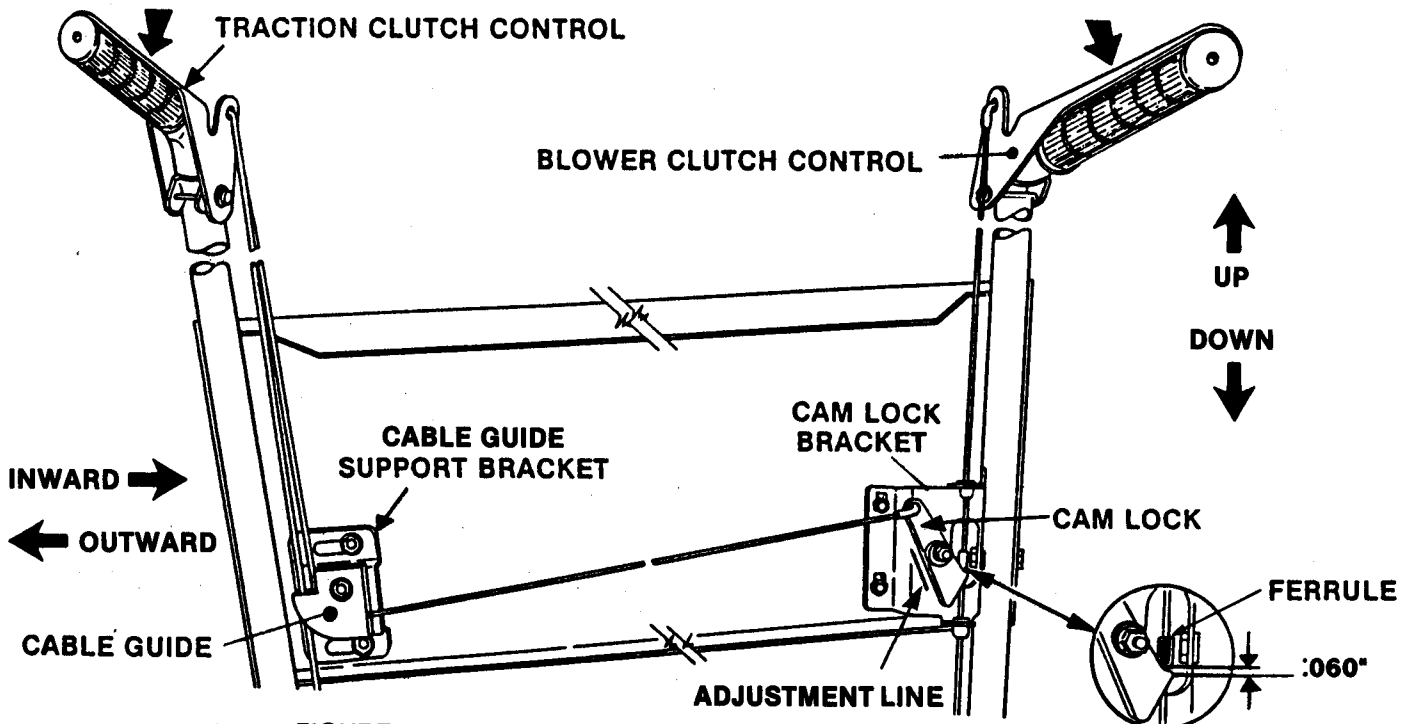

FIGURE 3.8
If the clutch controls need readjusting, turn engine off and disconnect spark plug wire! Reset as follows (Refer to figure 3.8):
(A) Have an assistant temporarily hold the traction clutch control down against the handle grip. The edge of the cam lock must be aligned with adjustment line scribed on the cam lock bracket as shown. To align, loosen the two fasteners holding the cable guide support bracket and slide the bracket inward or outward as needed then retighten the fasteners. (B) With the traction clutch held down, have assistant hold the blower clutch control against handle. The ferrule (shown in the inset of figure 3.8) must be located about 1/16" (.060" exact) above the hook of the cam lock. To adjust, loosen the 3 fasteners on the cam lock bracket and slide the bracket up or down until the setting is correct, then retighten the 3 fasteners on the cam lock bracket. Release controls.